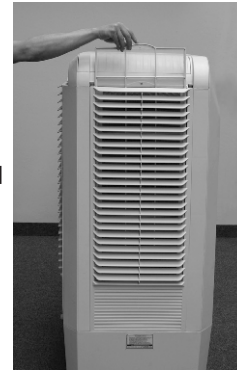

Fig. 1
1. Just pull up to remove the sliding grille, Fig. 1